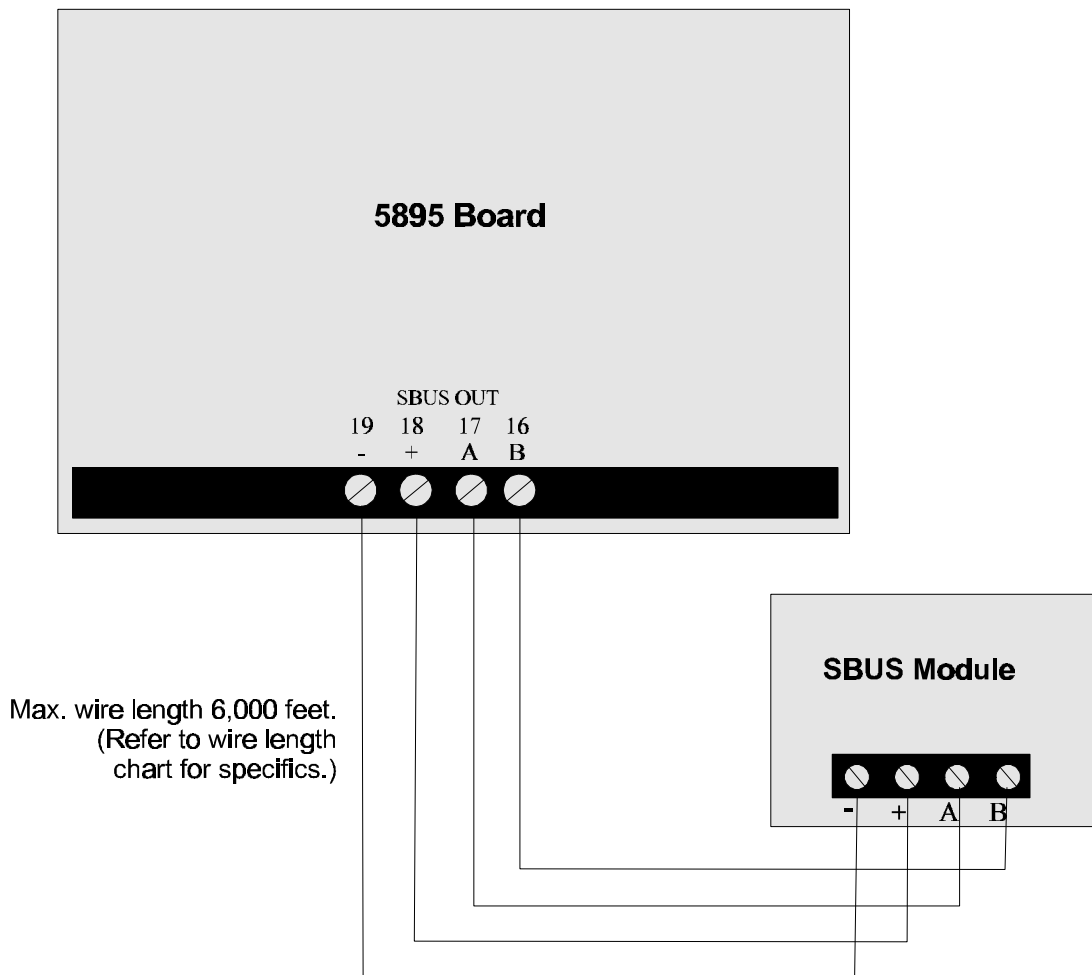

Figure 9. SBUS Module Connection to 5895
1. Connect SBUS modules to the 5895 as shown in Figure 9.